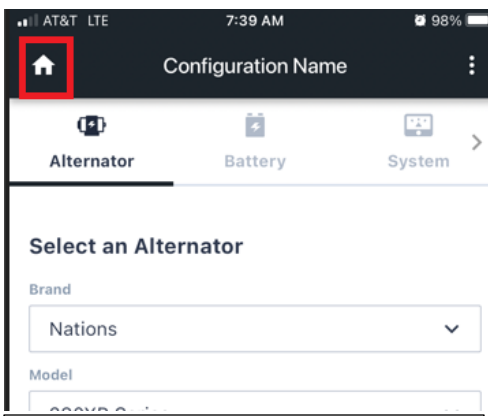

Figure 12A – Select Home button
- Input the settings shown below in Figures 12A, 12B, 12C, 12D, 12E & 12F.